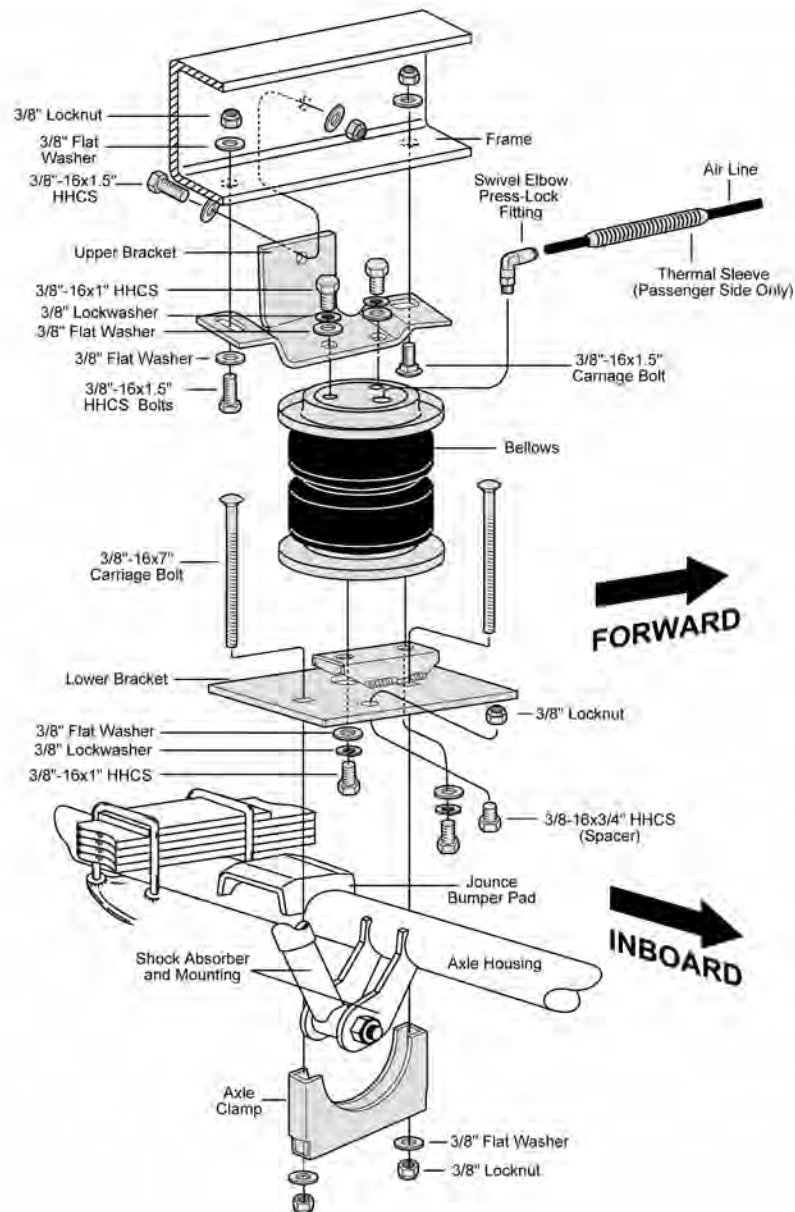
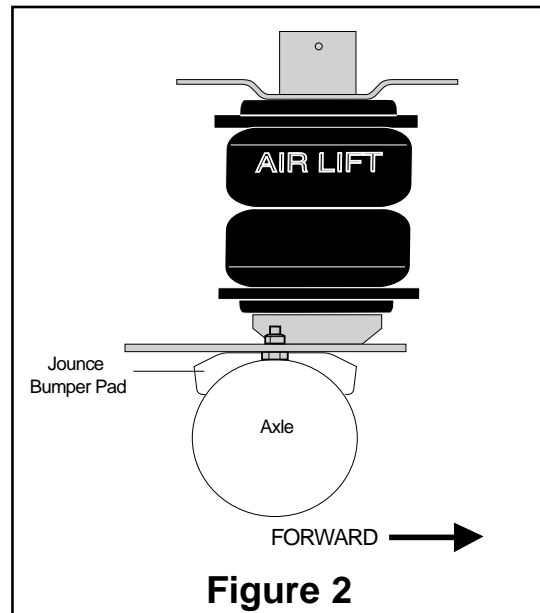

FIGURE 1
Figure 2
2. Lower axle or raise frame an additional 2 - 3 inches to provide clearance when positioning air spring assembly. **NOTE: IF THE VEHICLE IS EQUIPPED WITH A FACTORY SWAY BAR, IT WILL BE NECESSARY TO SET THE LOWER AXLE CLAMP IN PLACE BEFORE LOWERING AXLE (FIGURE 1).**
5. A spacer is required so that the lower bracket sits level on the axle housing/jounce bumper pad. Insert 3/8-16x3/4" HHCS bolt through lower bracket and secure with 3/8" lock nut (Figure 1). The spacer should sit inboard of the jounce bumper pad (Figure 2).
6. Put the 3/8-16x7" carriage bolts into the rectangle holes in the lower bracket. Attach the bellows onto the upper and lower brackets using the round holes with the 3/8"-16x1" mounting bolts, flat washers, and lock washers. **There are right and left hand units (marked).** Tighten to 15-20 ft-lbs. (Figure 1).
7. Place the assembly on the axle housing, guide the carriage bolts through the axle clamp and align so that the bellows follows the natural arc of the suspension travel. Attach lower bracket to axle housing loosely using axle clamp, flat washers and locknuts (Figure 1 & 4).